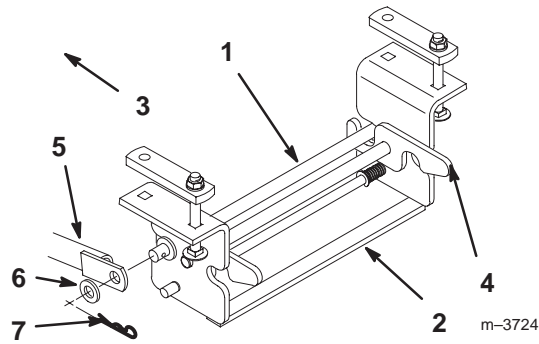

Figure 21
- 13.** Open the latches on the rear Attach-A-Matic™ hitch. Put the support rod link into the front notches on the rear Attach-A-Matic™ hitch and close the latches to secure it in place (Fig. 21).
- Secure the braces to the rod with a 13/16" (21 mm) washer and a large hairpin cotter (Fig. 21).